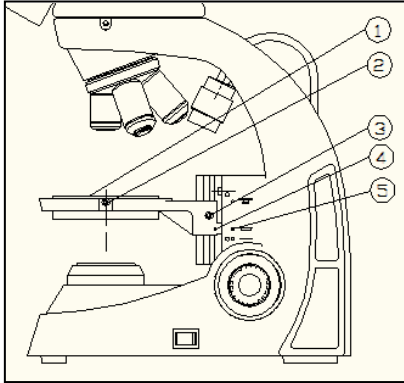

Fig 23
Place the culture dish ① into the holder, then tighten the lock the screw ②. Adjust coarse focus knob to raise the stage to the top position, loosen the screw ③ to adjust the height of the stage, then tighten the lock screw ③ when marks ④ and ⑤ are horizontally aligned. (See Fig.23)
Place the stage plate ① into the holder, then tighten the lock the screw ②. Adjust coarse focus knob to raise the stage to the top position, loosen the screw ③ to adjust the height of the stage, then tighten the lock screw ③ when marks ④ and ⑤ are horizontally aligned. (See Fig.23)